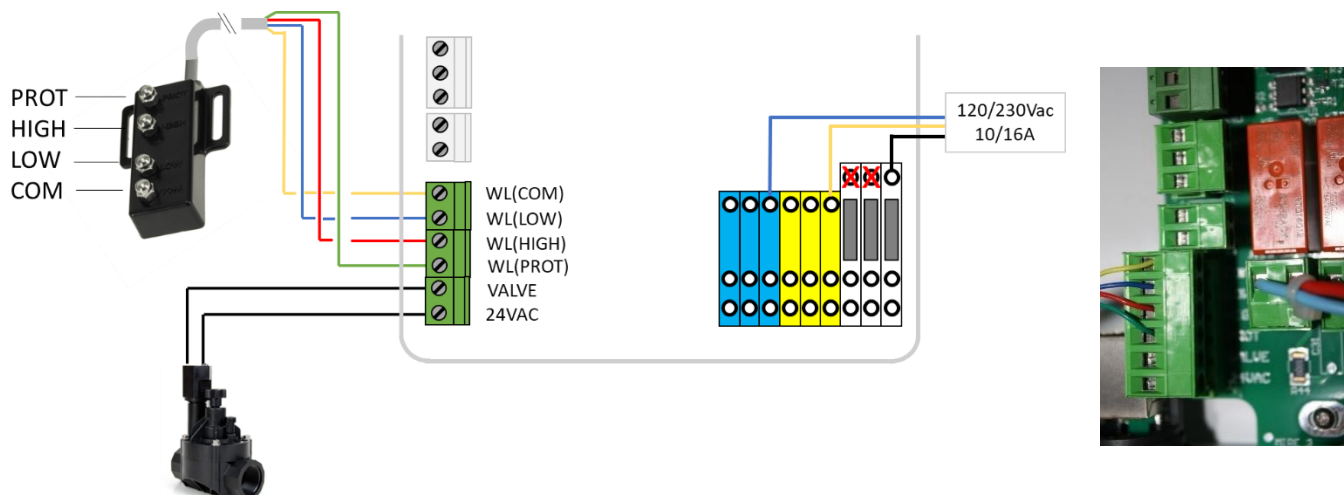

Figure 58 - Connecting Water Level
- ☐ Connect the 2-core wire from the valve solenoid to the connector on J20 marked (VALVE) according to Figure 58 - Connecting Water Level. Polarity is not important.